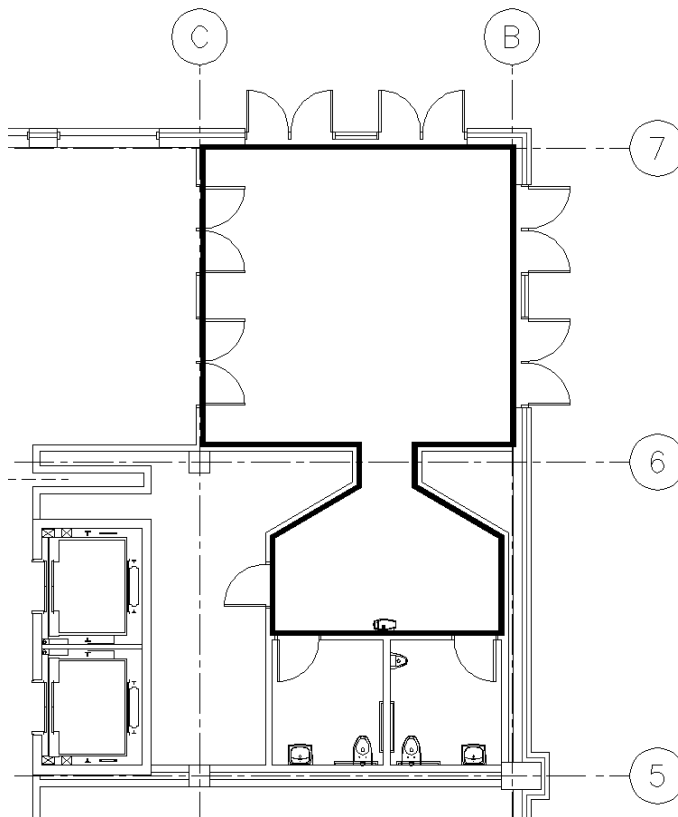

Figure 4-4.1 Adding a polyline at the vestibule
4. Using the **Polyline** command (see image to the right), draw an enclosed area in the Vestibule as shown in Figure 4-4.1.